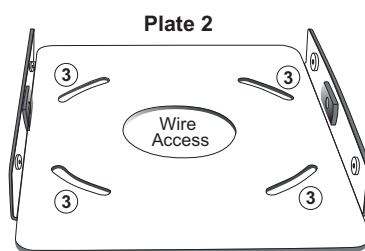

Figure 12
2. Base plate connector holes #3 provide 15 degrees of horizontal rotation adjustment. Attach horizontal adjustment Plate 2 to the projector mount ceiling Plate 1 using the four (4) 5/16-18 inch nuts and washers provided. Refer to figures 12 and 13.